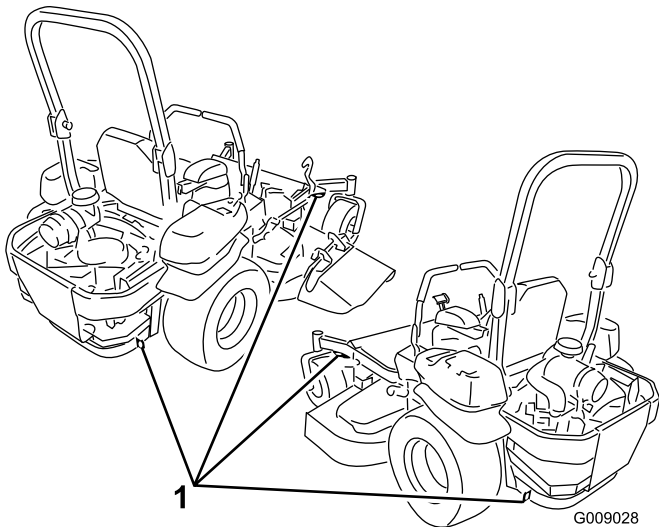

Figure 29
5. Use the metal tie down loops on the machine to securely fasten the machine to the trailer or truck with straps, chains, cable, or ropes (Figure 29).